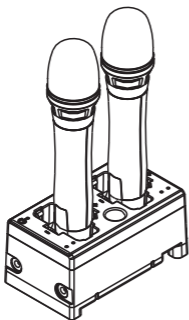

Fig. 23:
3. MP-80 Dual-slot Docking Charger, Fig. 23.